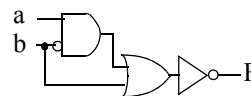

Figure 2.78
2.32 Create a Boolean equation representation of the digital circuit in Figure 2.78.